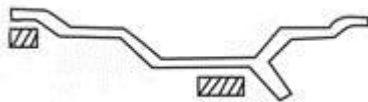

Fig. 12
4.4.3 The ALU1 and ALU2 balance mode (shown in Fig. 11 and Fig. 12)